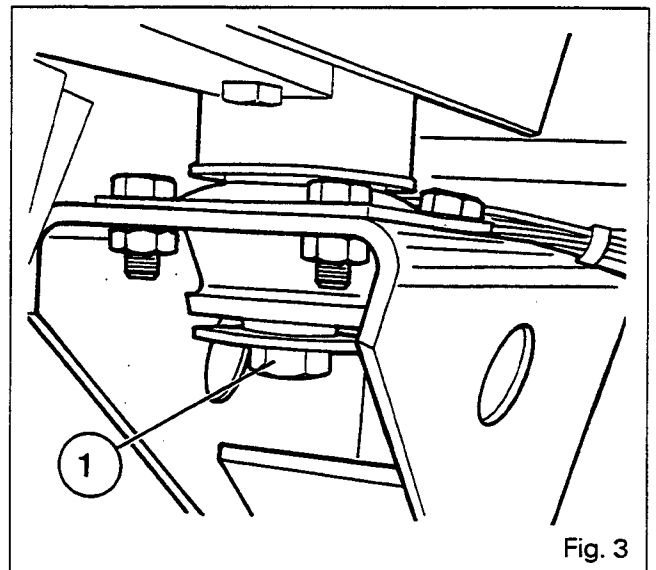

Fig. 3
19. Remove the bolts (1) from the right-hand and left-hand cab supports (Fig. 3). Raise the cab and fit wedges.